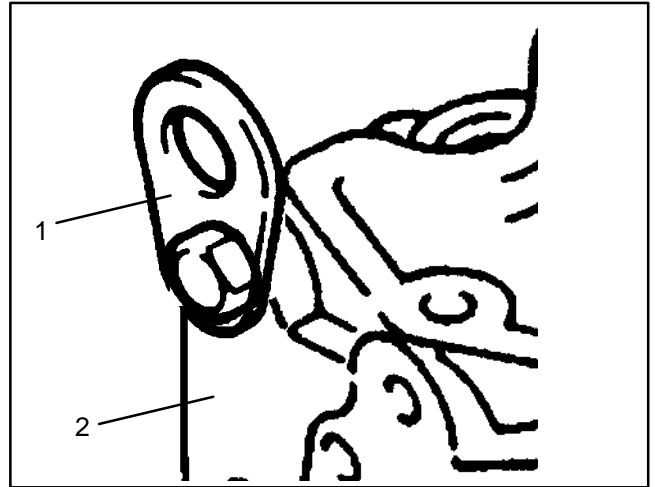

Figure 24
A. Attach short section of chain between both lift tabs (1) located on each end of the cylinder head (2) (Fig. 24)
B. Connect a hoist or chain fall at the center of the short section of chain. Apply enough tension on the short chain so that the engine will be supported when the cap screws (42) securing the engine mount brackets (22, 34, and 46) are removed.
C. Remove cap screws (42) and flange nuts (27) from the engine mount brackets (22, 34, and 46) and the frame.
- A. Attach short section of chain between both lift tabs (1) located on each end of the cylinder head (2) (Fig. 24)